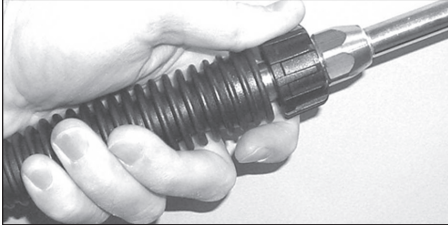

Figure 6 – Attach lance to gun
- Attach the lance to the gun (see Figure 6).